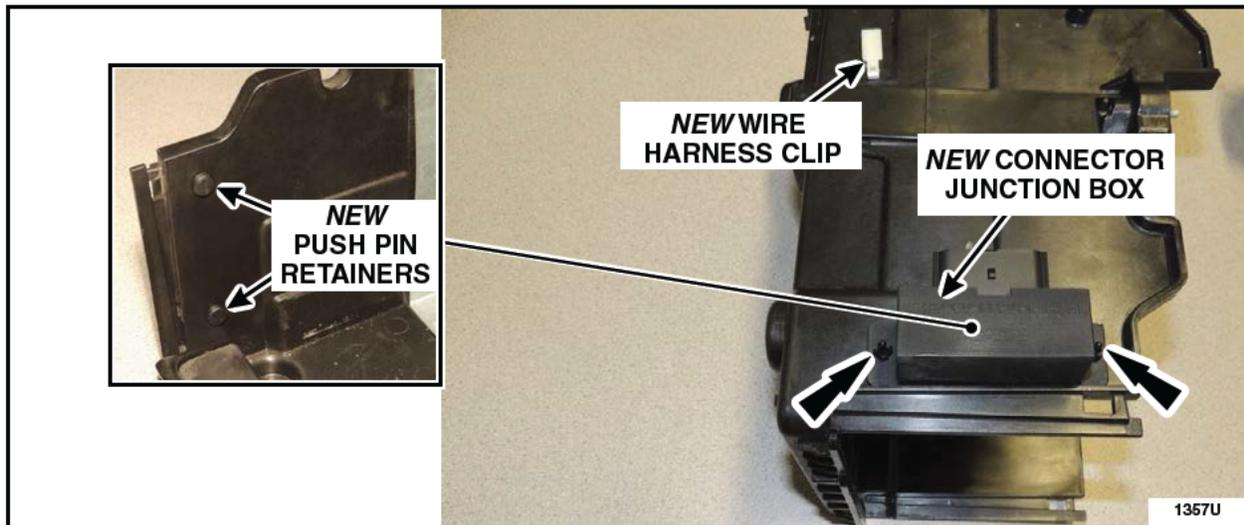

FIGURE C4
SERVICE TIPS: Remove the two (2) push pin retainers from the connector junction box, prior to installation. While installing the connector junction box ensure that the push pin retainers are installed in the proper orientation. See Figure C4.
- Deburr the four (4) previously drilled holes on the battery tray as necessary.
- Attach the *new* connector junction box to the battery tray using the two (2) *new* push pin retainers. Install the *new* push pin retainers so the heads of the retainers are on the **INSIDE** of the battery tray. See Figure C4.
- Install the *new* wire harness clip onto the battery tray. The christmas tree portion of the *new* wire harness clip is to be installed into the larger of the two mounting holes. See Figure C4.